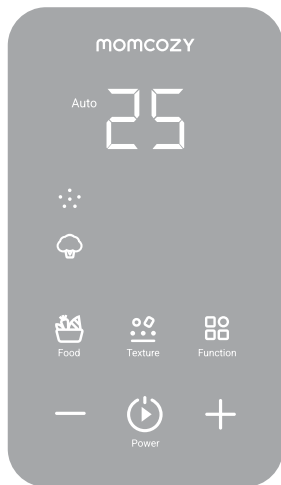

Fig.9
- Press the  "Food" button to select the desired food type. When starting the machine for the first time, it will default to the smallest particle size and the combined steam-blend mode (Fig.9).